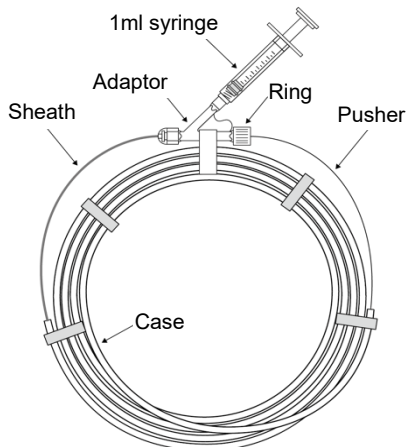

Figure 5. How to swell the PVA rod
- (1) Place the hypodermic needle (made of stainless steel without resin-coating, 20 - 22 gauge) at a depth of at least 10 mm vertically to the skin of the thigh or groin, with a special care not to injure the patient's blood vessels or nerves.
- (2) Connect a RHV (not included in the package of the i-ED COIL) to the hub of the microcatheter. Continuously perfuse heparinized saline from a pressurized solution bag via the side port of the RHV.
- (3) Insert the microcatheter into the target blood vessel and deliver it to the target position.
- (4) Pull off the POWER ON ribbon of the EDG v4 to switch on the EDG v4.
- (5) Connect the Patient-side clip (black) of the EDG v4 with the hypodermic needle placed in the patient.
- (6) Select the coil size that is adequate to the lesion referring to the angiogram.
- (7) As shown in Figure 5, infuse about 1 ml of heparinized saline into the sheath from the adaptor to swell the PVA rod of the i-ED COIL.